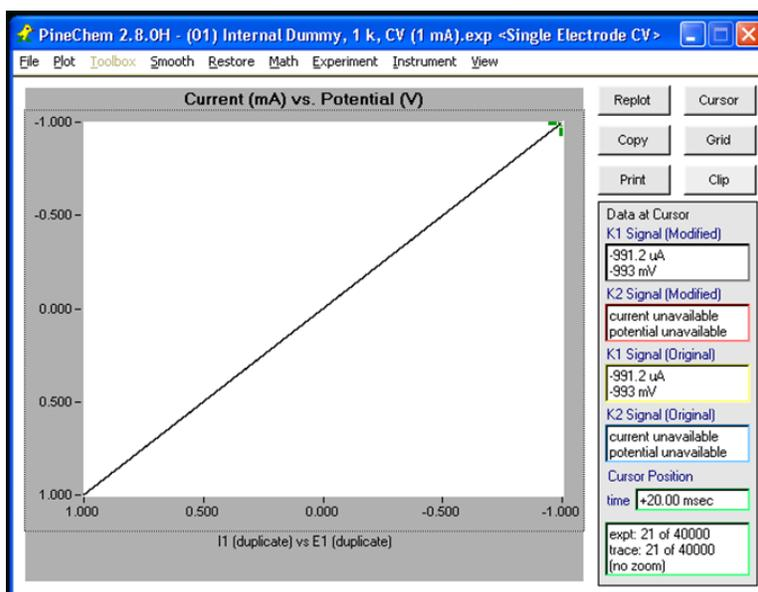

Figure 3: PineChem Screenshot Showing a Cyclic Voltammogram
- c) Check the CV result and verify that the I1 vs E1 plot is a linear line connecting two points: (-1 mA, -1 V) and (+1 mA, +1 V), see Figure 3.
If the resulting CV is not similar to the result shown in Figure 3, please recheck the experimental settings. Double check the interface cable between the computer and potentiostat. Double check that the Experiment Type is set to "Use Internal Dummy Cell". Double check the current range is set to "1 mA".
- Check the CV result and verify that the Current vs Potential plot is a linear line from $-1\text{ mA}, 1\text{ V}$ to $1\text{ mA}, +1\text{ V}$, similar to that in Figure 3. If not, check the resistor value with a multimeter and check the cell cable.